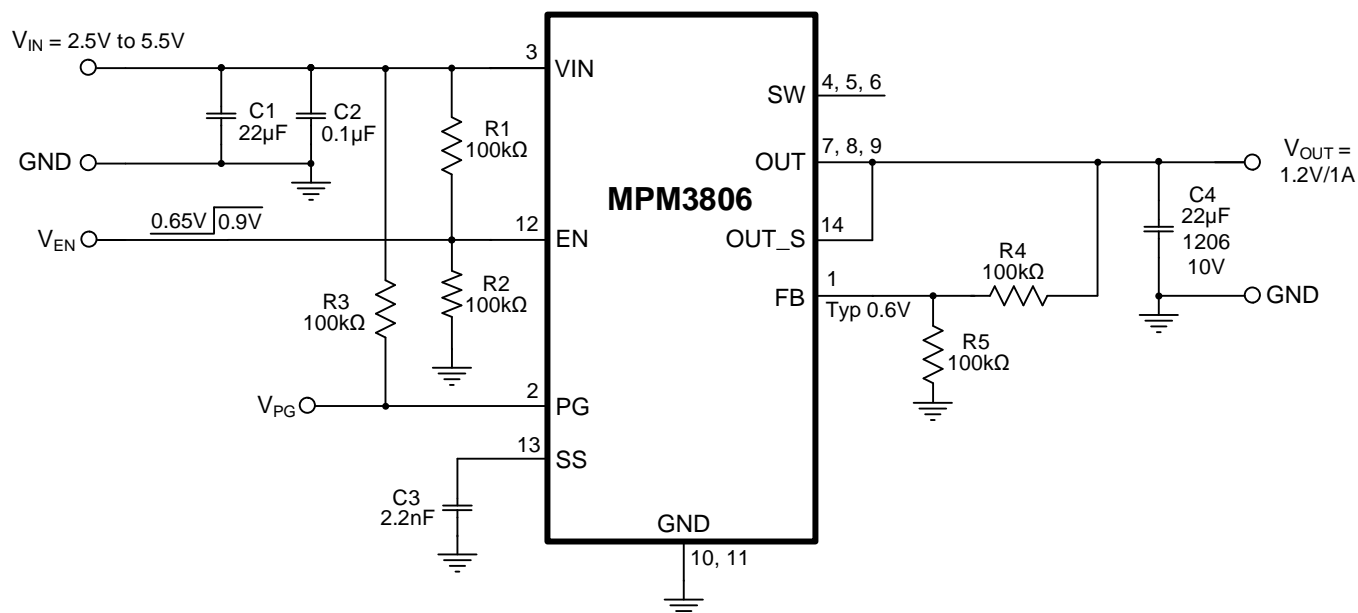

Figure 11: Typical Application (Adjustable Output, $V_{OUT} = 1.2V$)
- 11) The recommended PCB layout is based on Figure 11 on page 25.